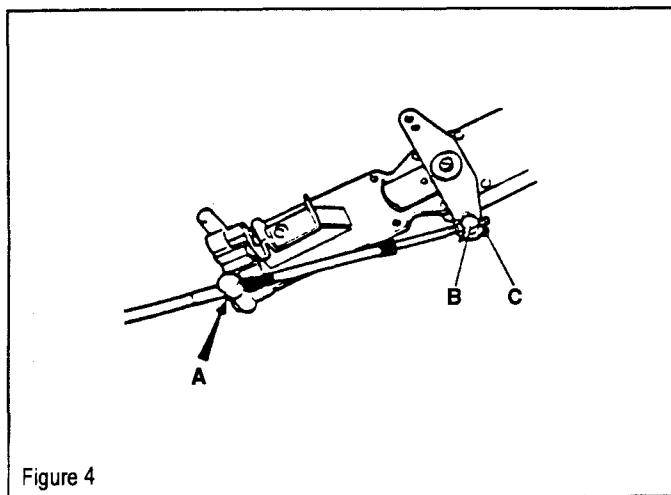

Figure 4
1. Push the shift cable through the appropriate retainer, making sure the cable seats securely into the retainer (figure 4 item A).
3. Connect the pivot to the shifting lever (figure 4 item B) and secure with a cotter pin (figure 7 item C).